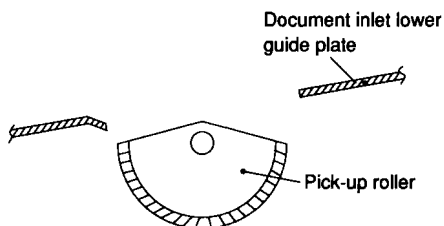

Figure 5-24
- 2) After adjusting the flag, make sure that the pick-up roller is positioned as shown in Figure 5-24 at power-on.